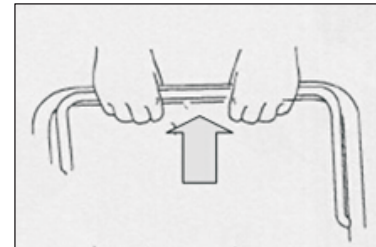

Fig 2A
- b) Standing behind the unit, grasp the brake control handle and hold it against the upper handle. (Fig 2A)